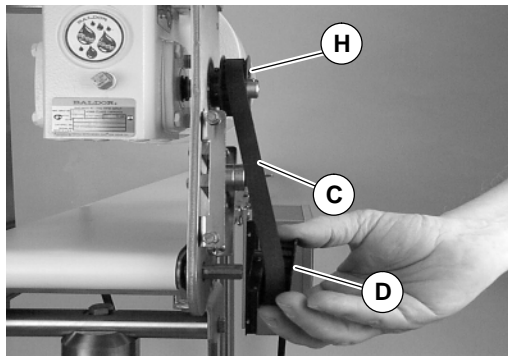

Figure 6
- Wrap timing belt (C of Figure 6) around driven pulley (D) and drive pulley (H). Attach driven pulley (D) to conveyor shaft.